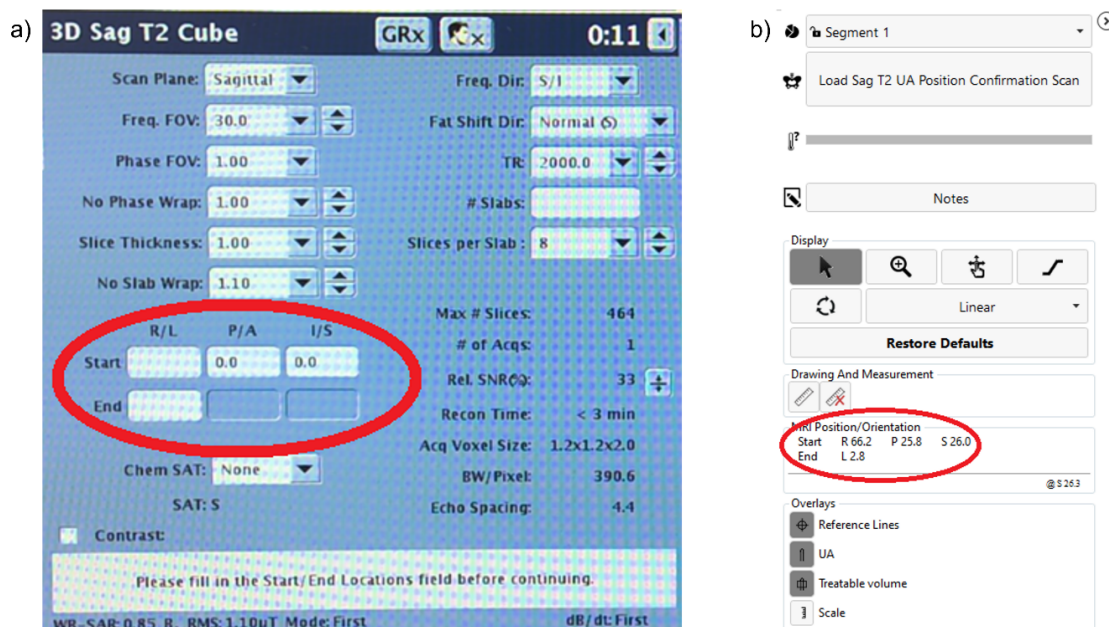

Figure 37: Manually prescribing Start/End Location coordinates for confirmatory SAG T2 scan
- b. **MRI Technologist:** For the new SAG T2 scan, click **GRx**, press the erase button (✖), and manually input the **Start / End Location** coordinates displayed in Coarse Planning on the TDC (Figure 37). Acquire the scan and send it to the TDC.